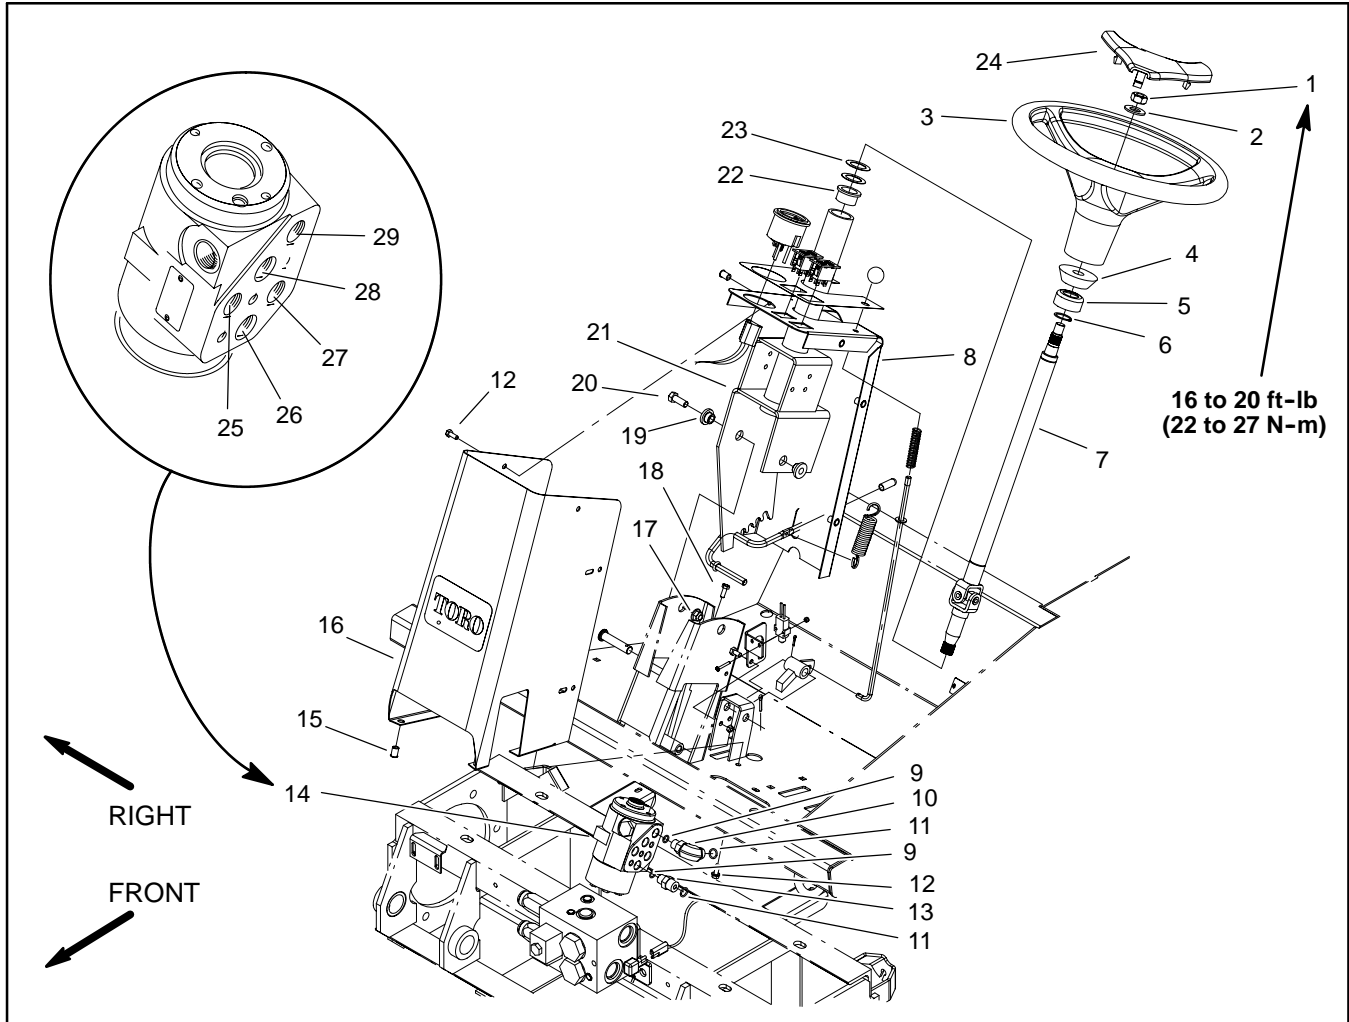

Figure 64
Removal (Fig. 64)
4. Remove steering valve from machine using Figure 64 as a guide.
Installation (Fig. 64)
2. Install steering valve using Figure 64 as a guide.